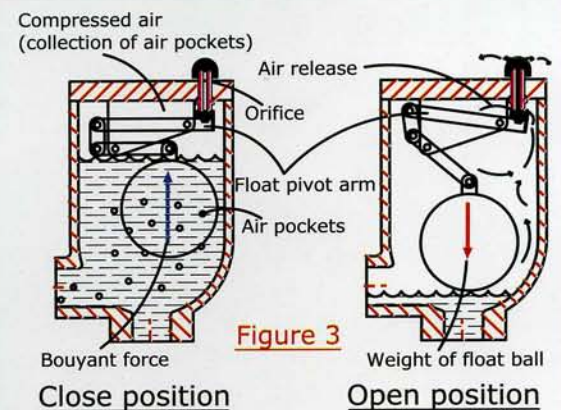

Figure 3
- \* During operation, air release valve capable of venting out air pockets that trapped in the water, thus increasing the system efficiency. See Figure 3
- \* Specially design pivot arm link for air release valve able to amplify the buoyant force till 15 times, thus enable orifice button to seal orifice more tightly. See Figure 3